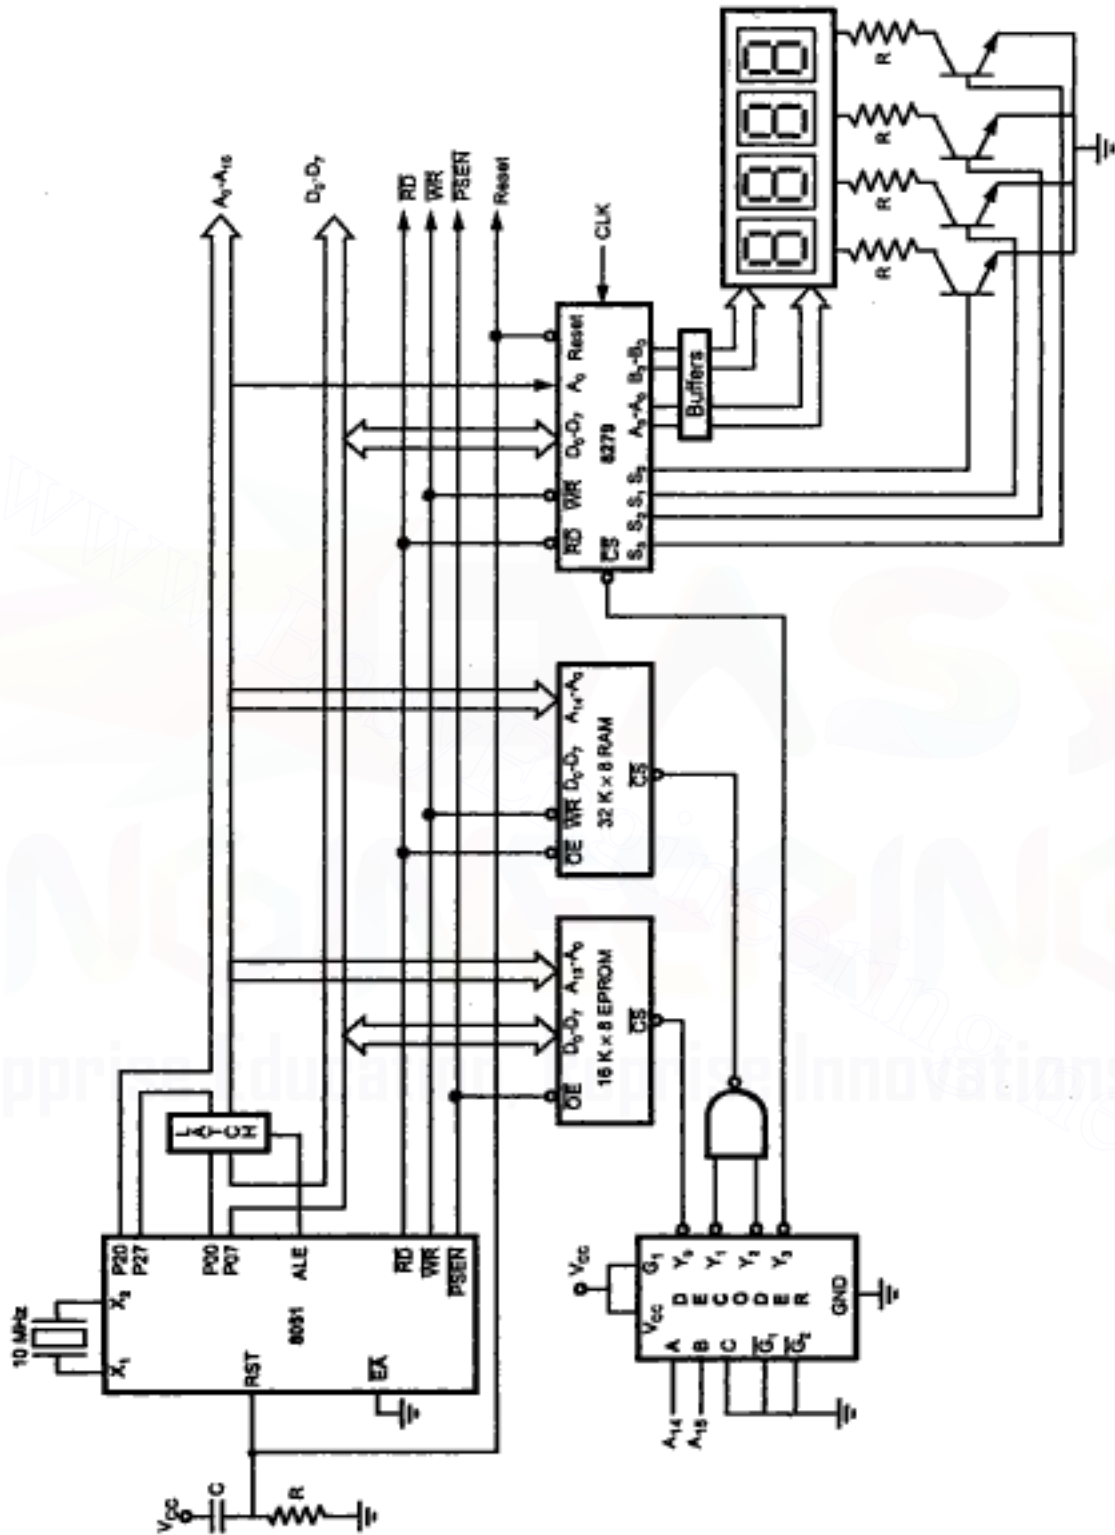

Fig. 13.56
**Solution :** Fig. 13.56 shows 8051 based microcontroller system.